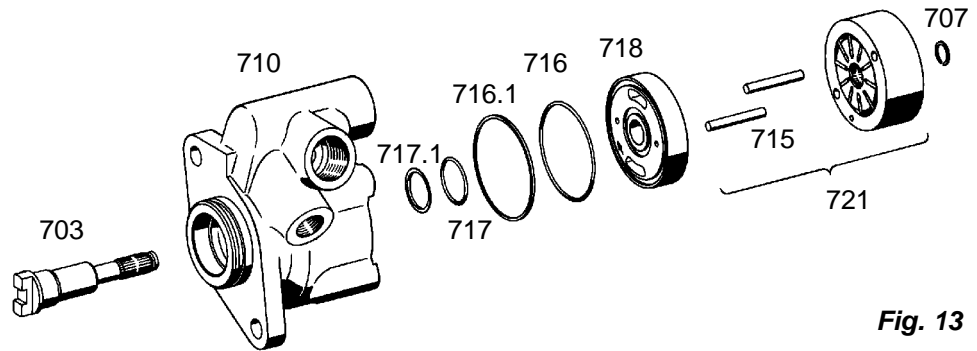

Fig. 13
Release retaining ring (707) (**Fig. 13**).